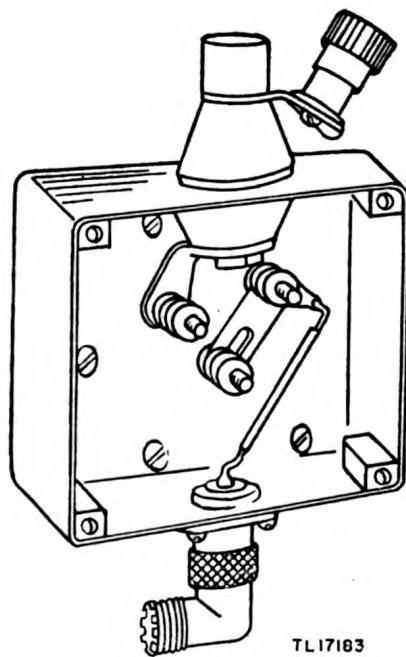

Figure 13. Terminal Box TM-218, link: settings for coaxial cable lead-in.
a. PURPOSE. Terminal Box TM-218 (fig. 13) and coaxial Cord CG-67/MRQ-2 (9 ft, 0 in.) or Cord CG-67/MRQ-2 (15 ft, 0 in.) are provided for installations where Radio Set SCR-610-( ) is located more than 3 feet from Mast Base AB-15/GR, MP-48, or MP-48-A. The terminal box and coaxial cable must be used with Mast Base AB-15/GR and a three-section antenna constructed of Mast Sections MS-116, MS-117, and MS-118, or with Mast Base MP-48 or MP-48-A and a three-section antenna constructed of Mast Sections MS-51, MS-52, and MS-53. A 3-foot length of Wire W-128 may be used to connect Terminal Box TM-218 to the mast base where the installation permits the location of the radio set within this distance of the mast base.